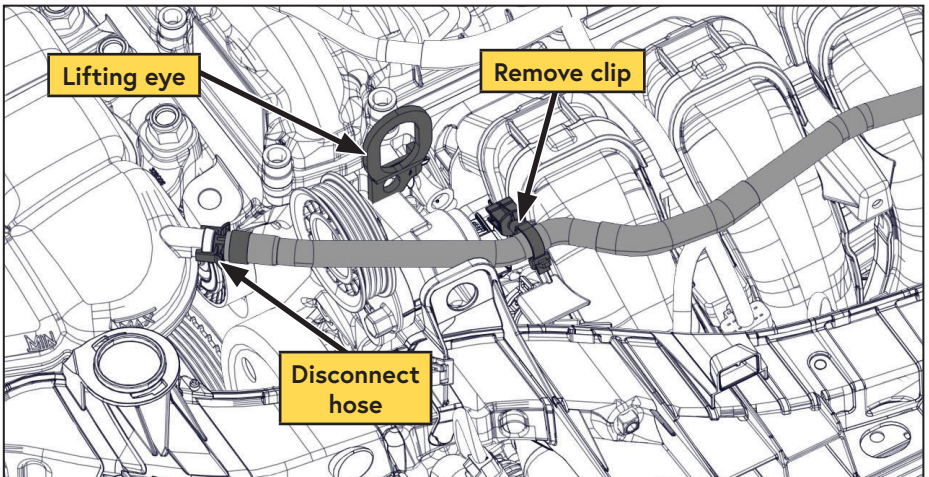

Figure 2 — Disconnect coolant hose
- If equipped:** Remove the lifting eye (this will not be reused in the installation) (Figure 2).
- Disconnect the barbed clip securing the coolant hose to the intake manifold (Figure 2).
- Disconnect the coolant hose from the degas bottle (Figure 2)